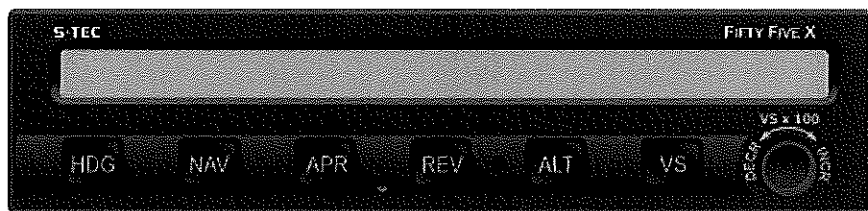

Fig. 2-5. AP Display, Turn Coordinator Failure
2. Should a Turn Coordinator failure be detected, the AP display will remain blank indefinitely as shown in Fig. 2-5, and the autopilot will not operate.